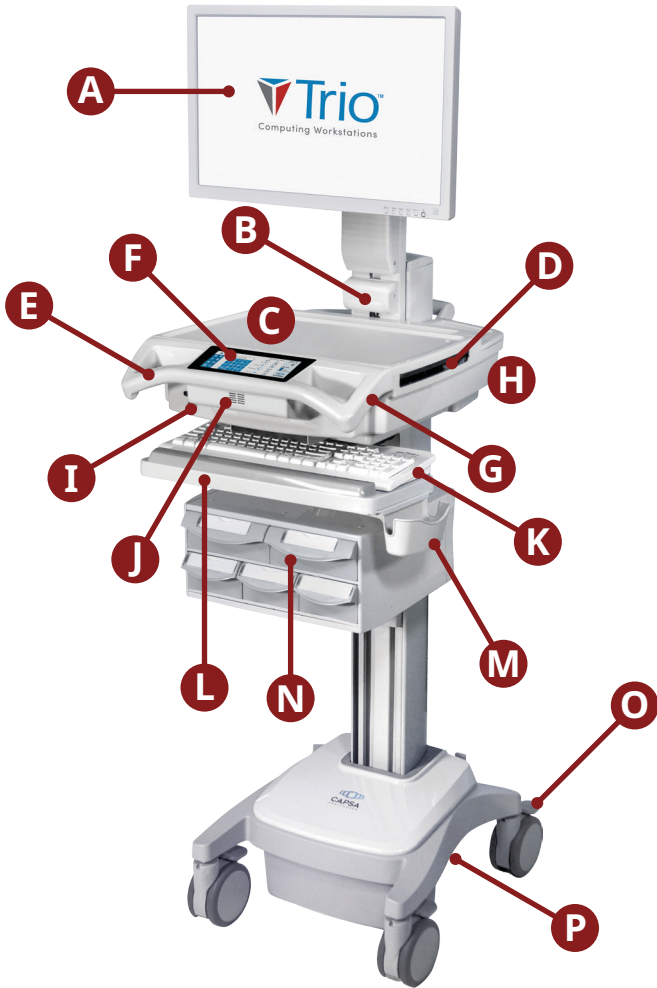

Figure 1: Components of Trio Carts (front view)
1. Insert the security key into the work surface lock (I on Figure 1, page 11).